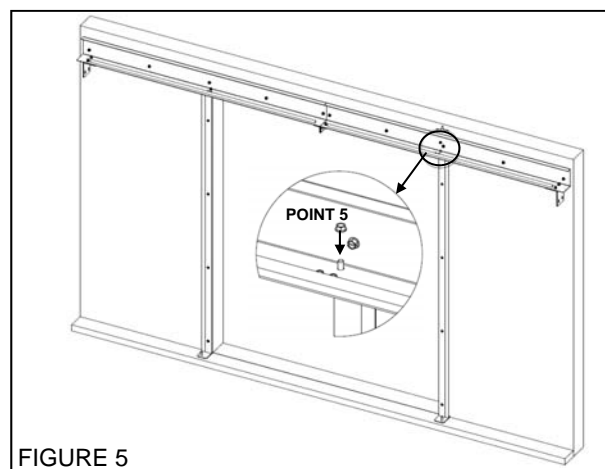

FIGURE 5
- Place the top track assembly on the threaded stud welded to the top of the trail jamb channel. Tighten the flange nut provided to fasten the pieces together at Point 5, Figure 5.